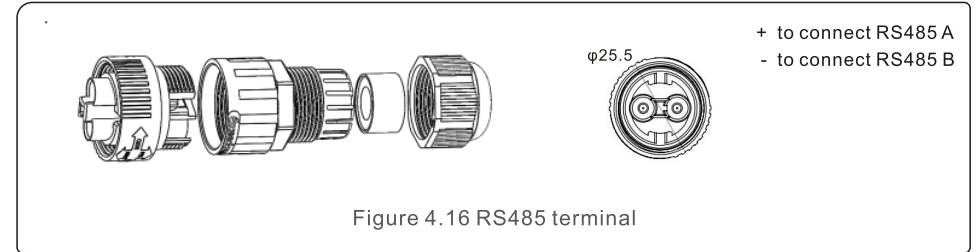

Figure 4.16 RS485 terminal
a. Refer to figure 4.16, the RS485 terminals for inverter and EPM are already assembled.
b. Refer to figure 4.16, connect communication cable between inverter with EPM, and then measure the distance from EPM to inverter. Use proper cable for RS485 connection. (0.5mm²)